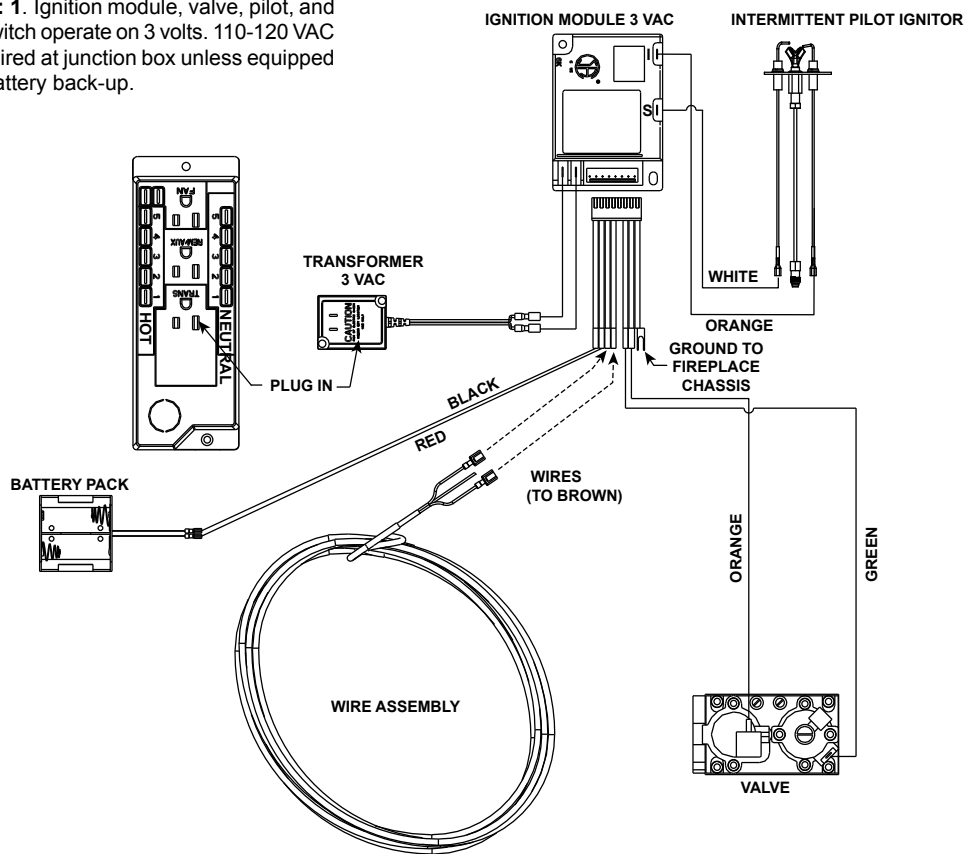

Figure 8.2 Intellifire Pilot Ignition (IPI) Wiring Diagram with Wall Switch or Thermostat (Standard)
- Refer to Figure 8.2, Intellifire Pilot Ignition (IPI) Wiring Diagram.